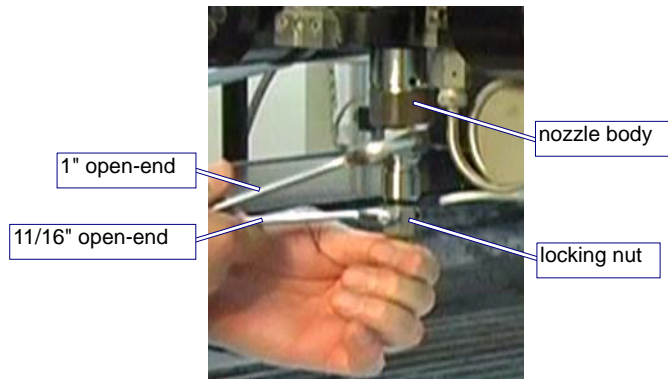

Figure 6-25: Removing the Nozzle Mixing Tube
- a. Place a **1" open-end wrench** on the **nozzle body** to counteract any torque while loosening the **mixing tube locking nut** (Figure 6-25).